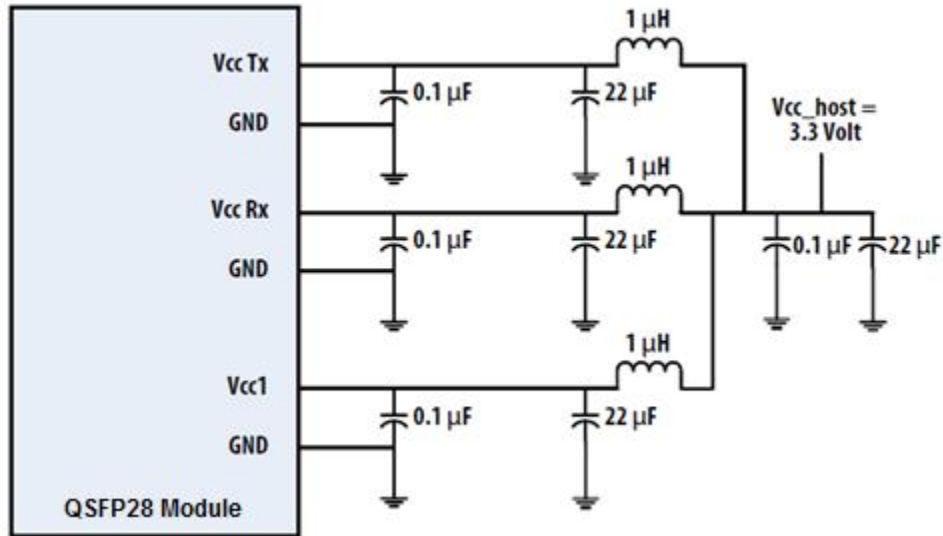

Figure 3. Recommended Power Supply Filter
2. VccRx, Vcc1 and VccTx are the receiving and transmission power suppliers and shall be applied concurrently. Recommended host board power supply filtering is shown in Figure 3 below. Vcc Rx, Vcc1 and Vcc Tx may be internally connected within the QSFP28 transceiver module in any combination. The connector pins are each rated for a maximum current of 500mA.